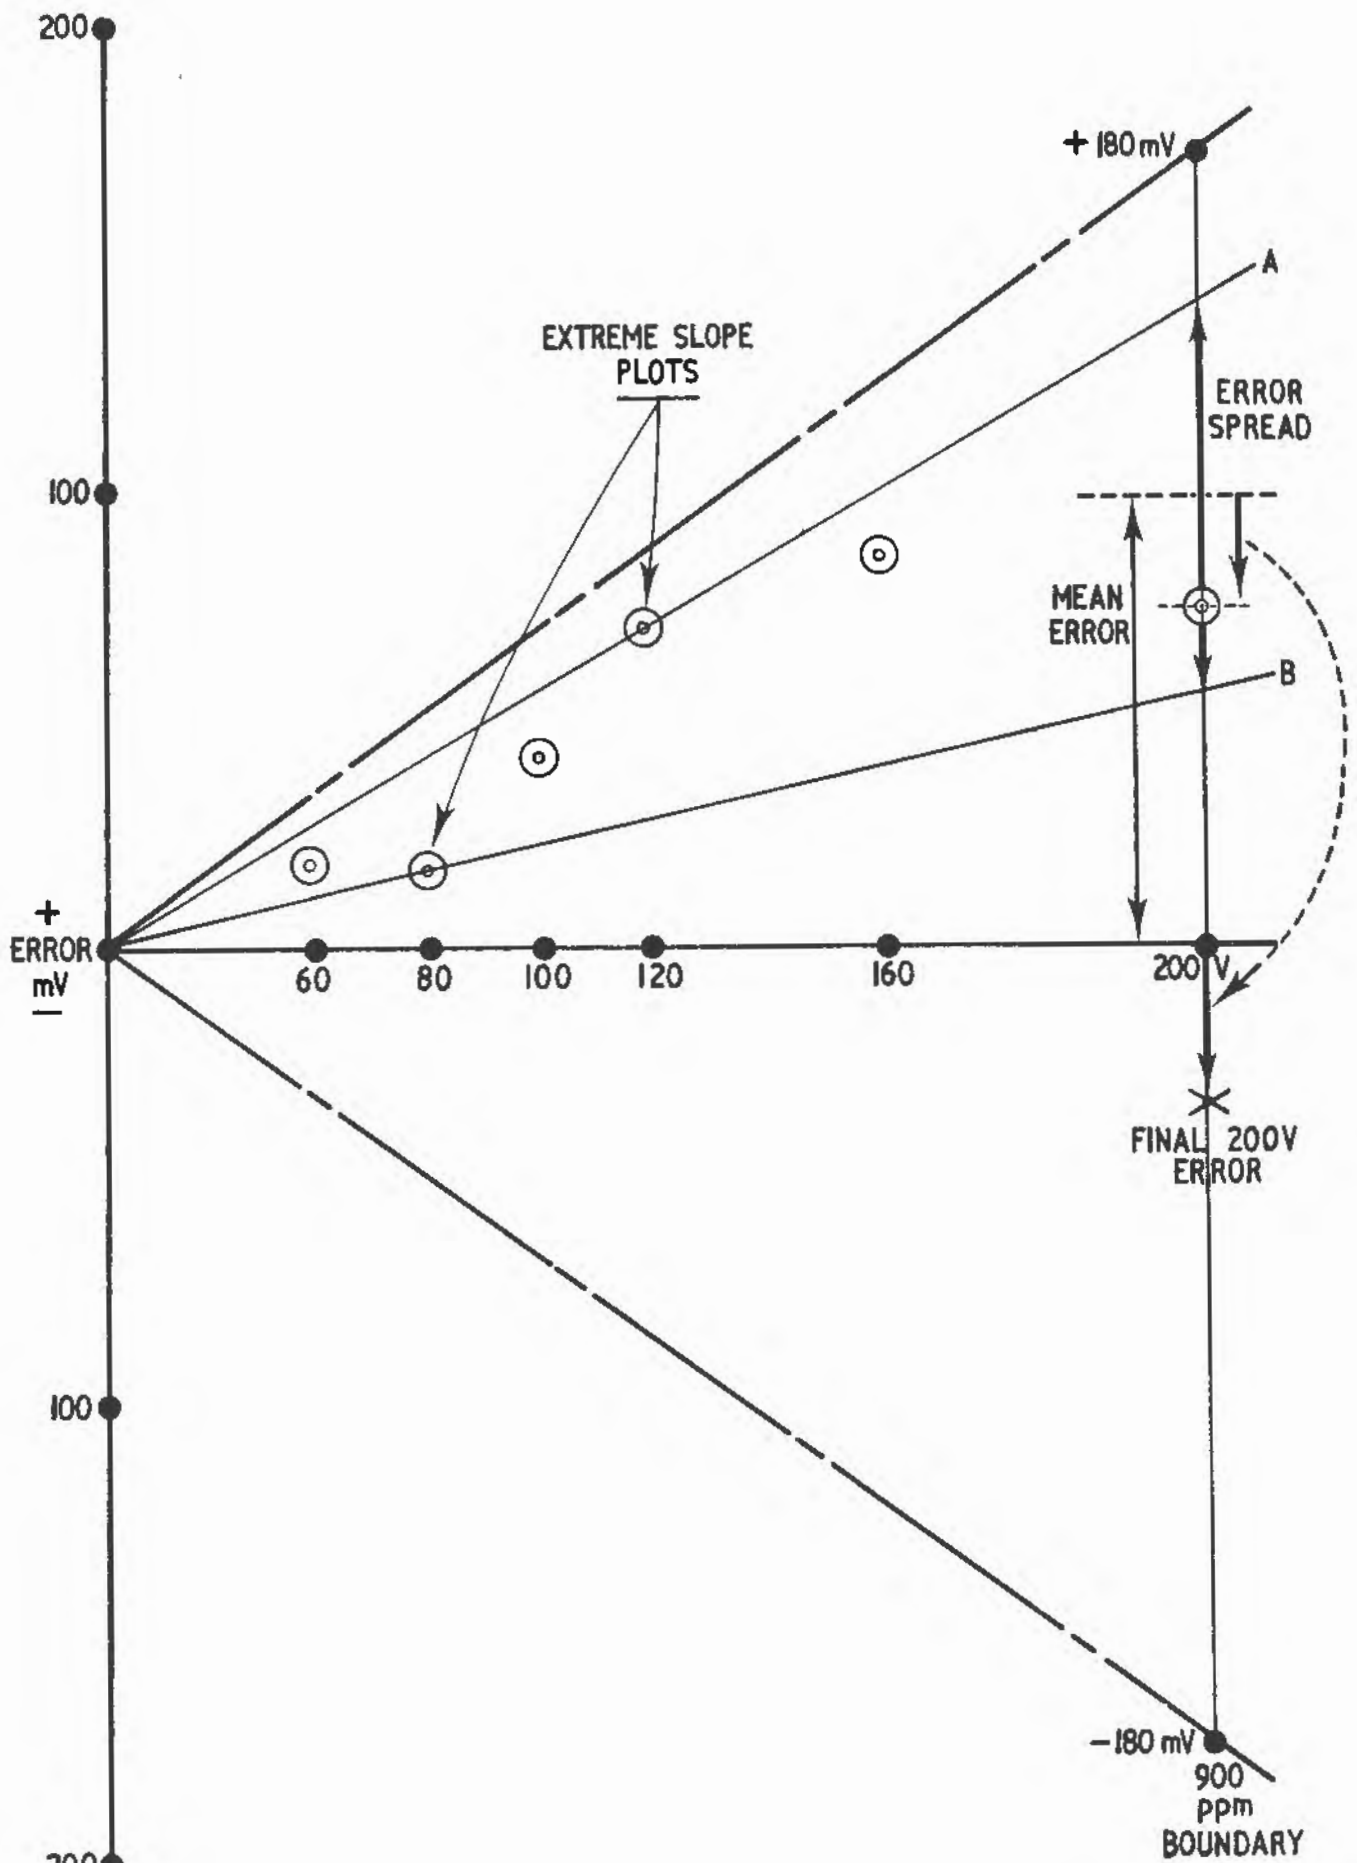

Figure 4-1. Error Vs. Nominal Voltage
- Plot a graph of error against nominal voltage as shown in Figure 4-1